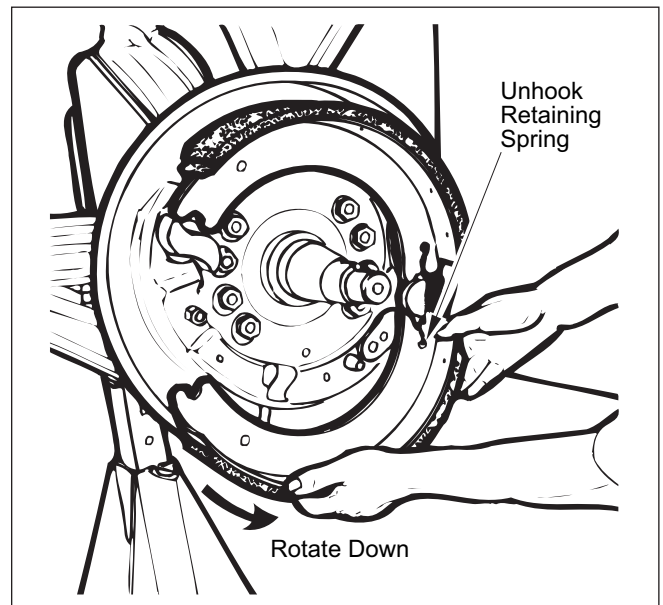

Figure 17. Lower Shoe Removal
6. Rotate shoe downward and turn to allow disengagement of shoe retaining spring from lower shoe web. Refer to Figure 17.